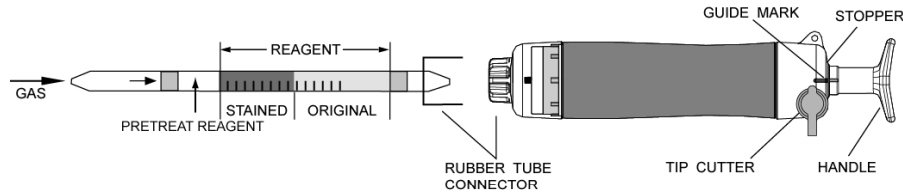

Fig.1
- ② Insert the detector tube into aspirating pump securely as shown in Fig.1. (Arrow mark shall point to the pump.)
- ③ Align the guide marks on the shaft and stopper of the aspirating pump.
- ④ Pull the pump handle at full stroke locked position and wait for 2 minutes or until the completion of sampling is confirmed with the flow indicator of the pump (See descriptions about the flow indicator in the instruction manual of the pump).
- ⑤ On completion of sampling, read the scale at the maximum point of the stained layer.
- ⑥ If the discolouration is over the scale, change the tube and carry out the following 1/2 pump strokes.